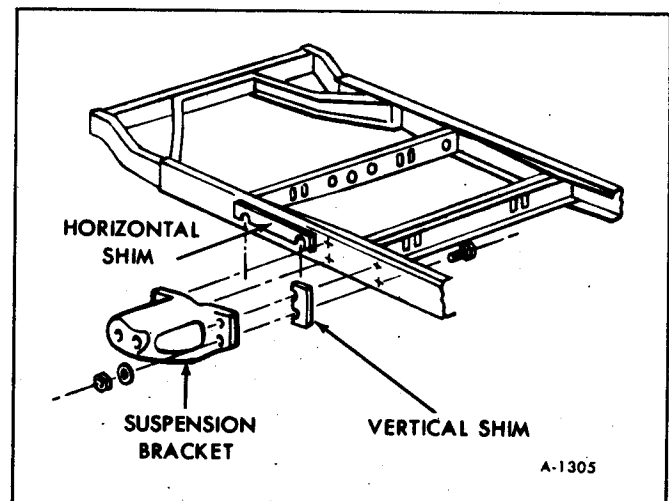

Figure 20—Rear Wheel Skim Location
If toe-in is not correct, it must be shimmed as shown in figure 20. Follow this procedure for adjustment.
3. Insert proper shim as shown in figure 20.
Camber is adjusted by shimming as shown in figure 20. Follow the same shimming procedure used to set toe-in.